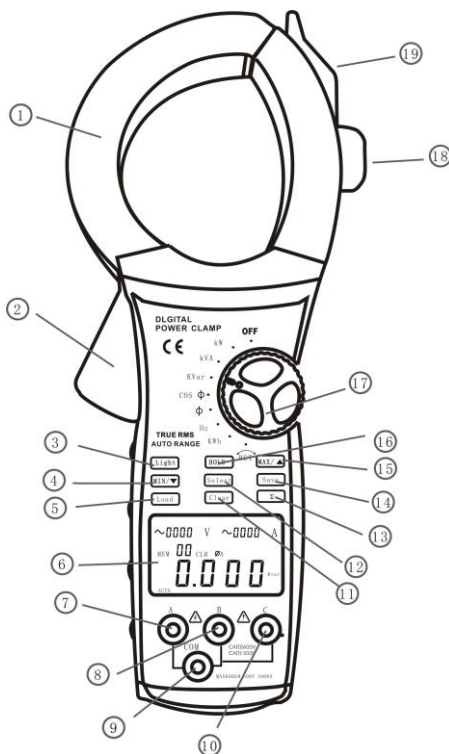

figure 1
A. The Meter Front Structure (see figure 1)